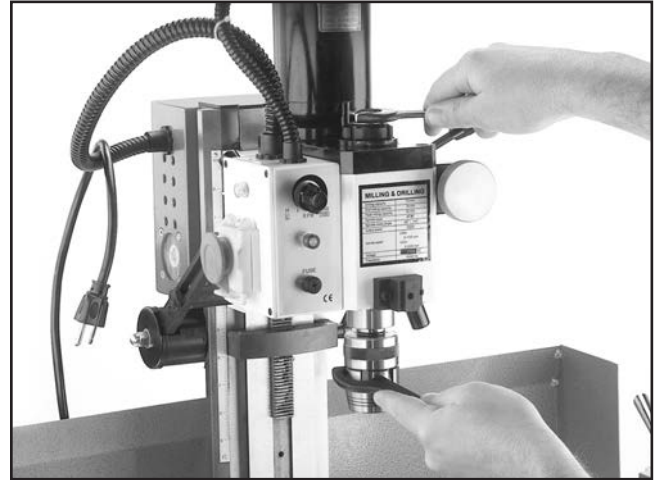

Figure 57. Installing optional collet chuck.
10. Hold the collet chuck in place with the spanner wrench and tighten the hex nut on the draw bolt just enough to snug it in place. See **Figure 57**. **DO NOT** tighten the hex nut too tight or the collet chuck will be hard to remove from the spindle taper.